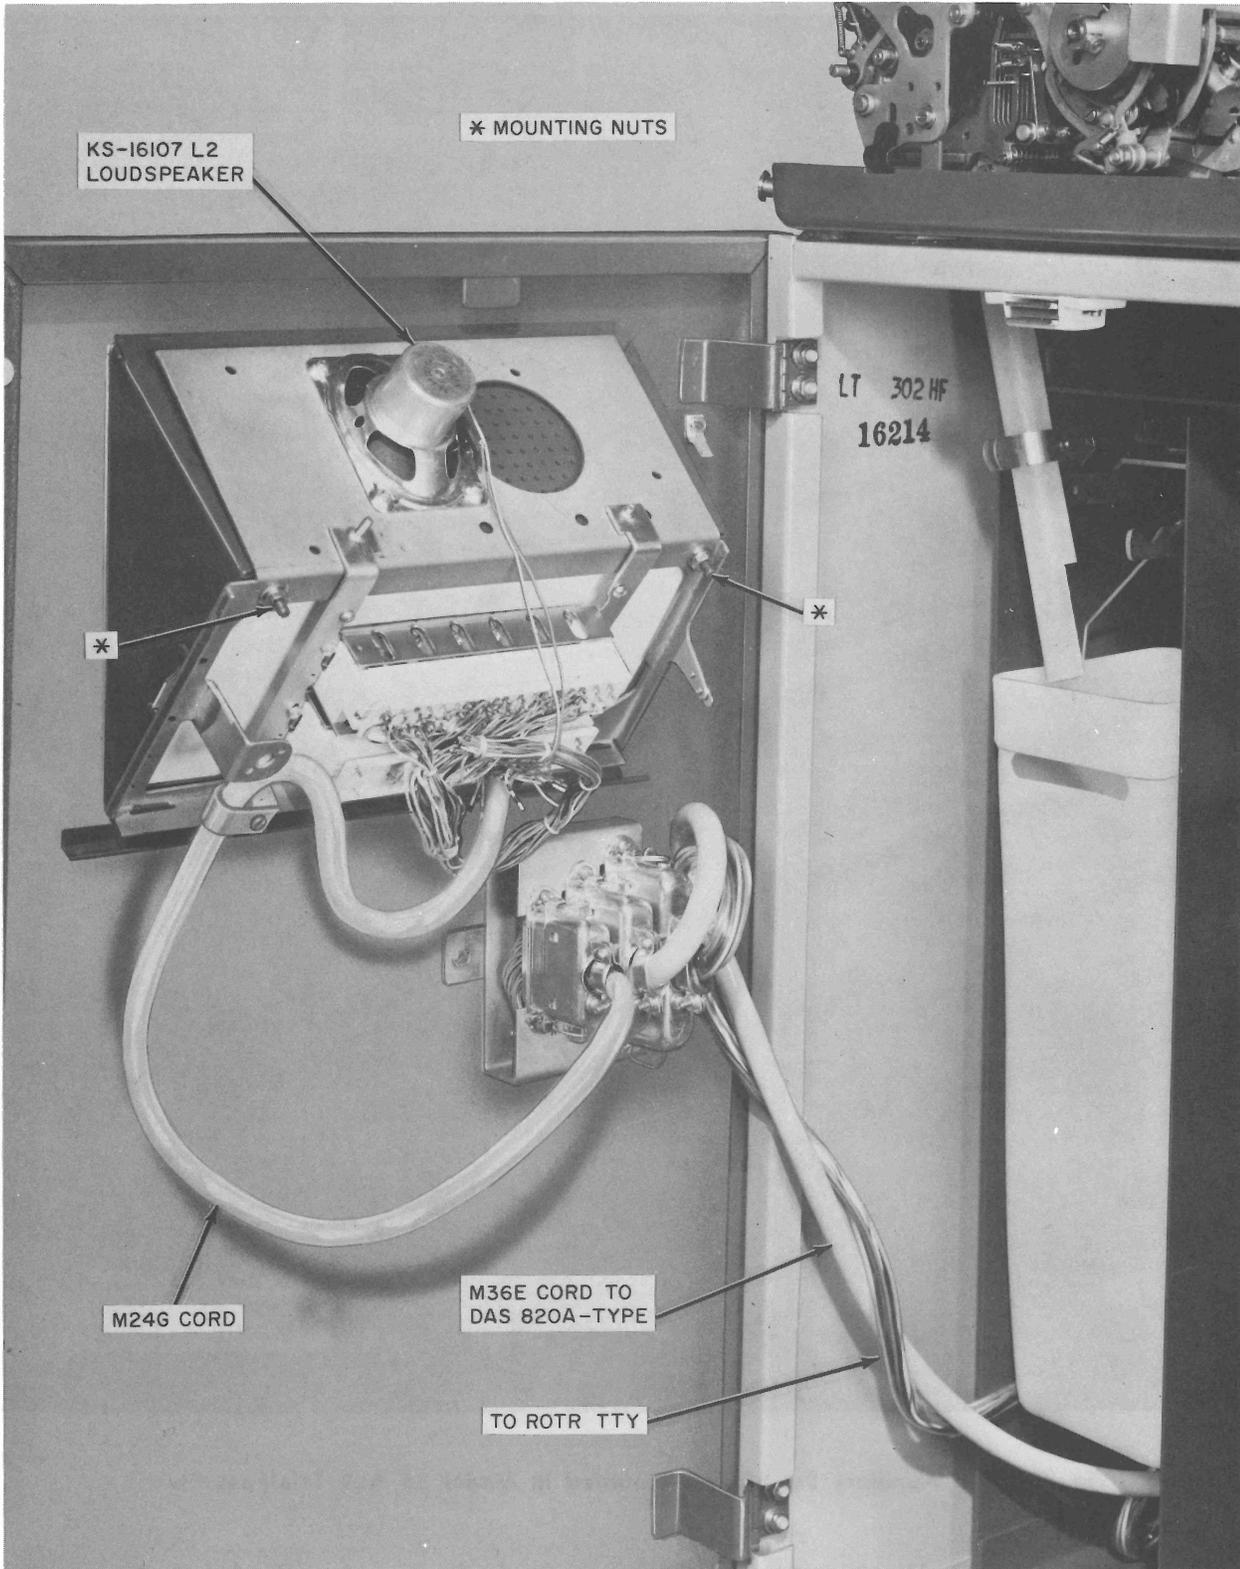

Fig. 9—Data Auxiliary Set 804R3, Mounted in Door of Model 35 ROTR Stand
6.01 Maintenance of DAS 804R3 is limited to the replacement of lamps, keys, cord, and/or loudspeaker (Fig. 9).
- (1) Open the door of the ROTR stand.
- (2) Loosen the two screws on the loudspeaker which connect the YEL-BL and YEL-OR conductors to the loudspeaker. Remove spade tips from the loudspeaker.
- (3) Remove the two mounting nuts which hold DAS 804R3 to the door (Fig. 9).
- (4) Remove the four screws which hold the loudspeaker to the mounting plate assembly.
- (5) Remove loudspeaker.
- (6) Reverse the procedure for the loudspeaker to be installed.